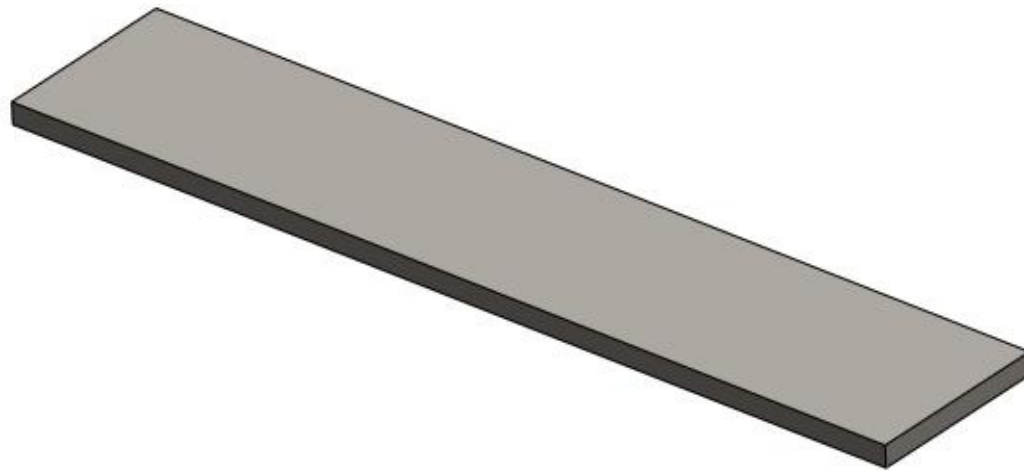

Figure-2. Model after applying material
- Click on the **Close** button from the dialog box to exit. The material will be applied; refer to Figure-2.